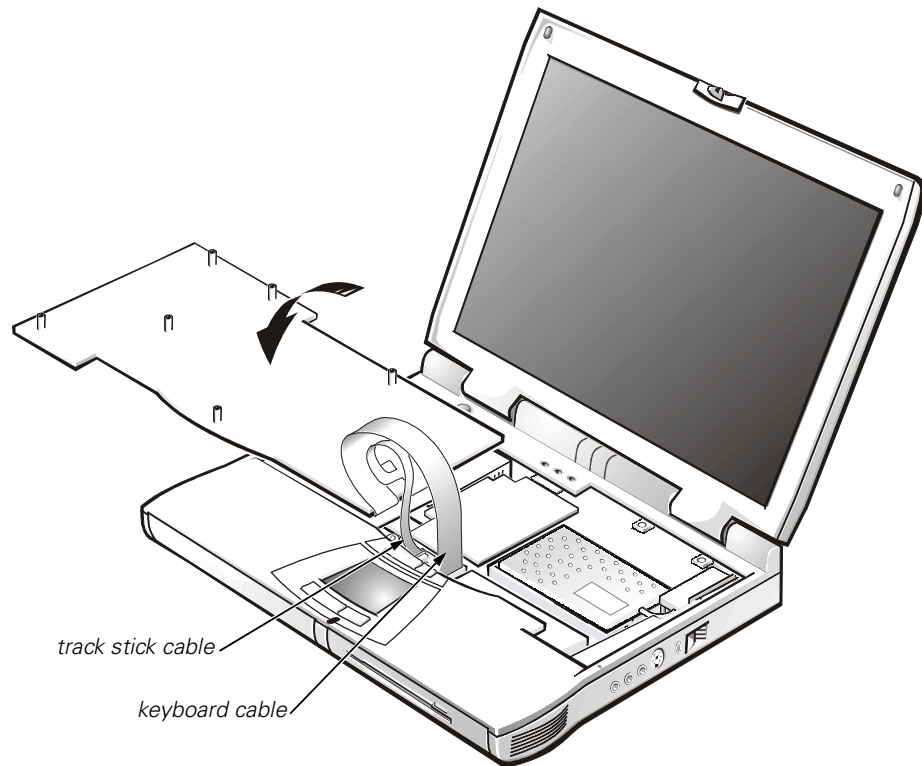

Figure 11. Keyboard and Track Stick Cables
7. Rest the key face of the keyboard on the left side of the computer (see Figure 11).
1. Place the keyboard on the left side of the computer with its key face down (see Figure 11).